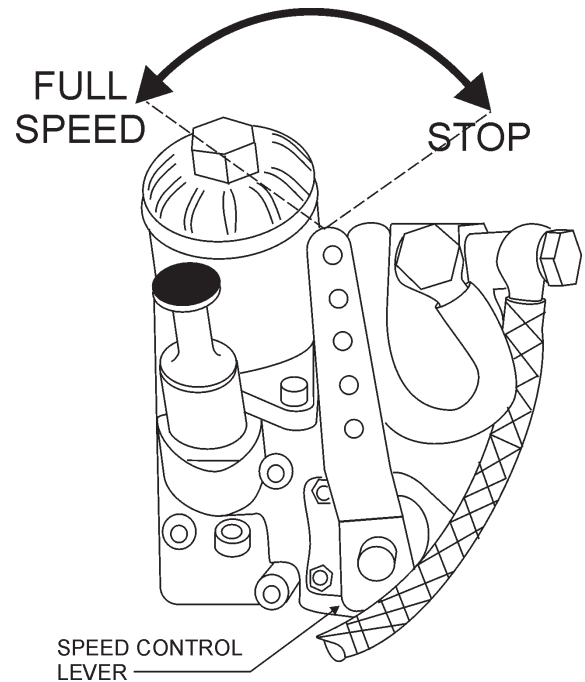

Figure 5. Speed Control Lever
1. Set the **Speed Control Lever** (Figure 5) to a position half way between start and stop.
8. Move **speed control lever** to full start position for maximum engine speed. (See Fig. 5)